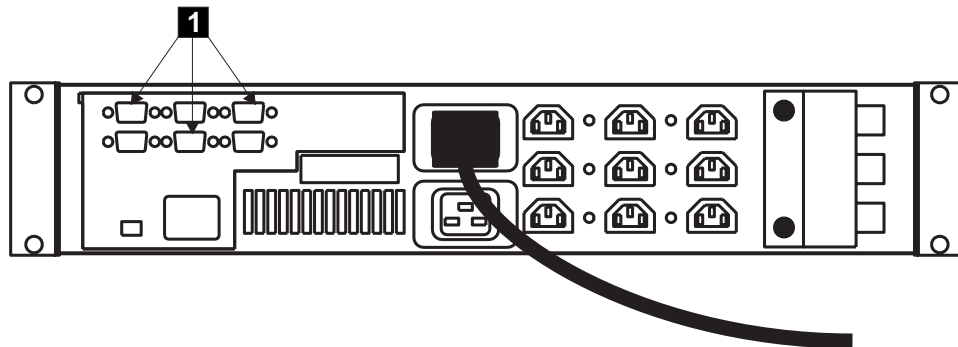

Figure 220. Connecting the 2145 UPS signal cables
4. At the back of the 2145 UPS, connect the signal cables. See **1** in Figure 220.